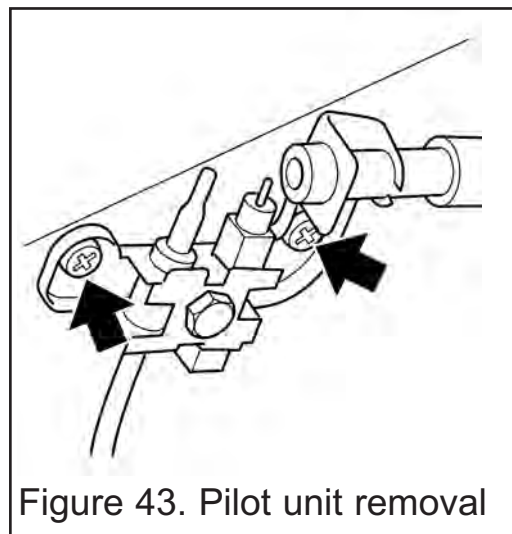

Figure 43. Pilot unit removal
6. Remove the two screws securing the pilot unit (See figure 43).